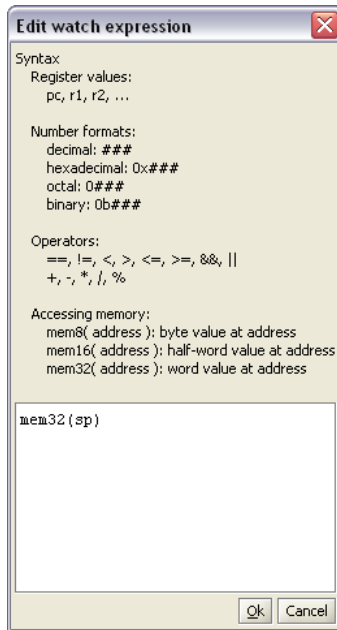

Figure 41. The **Edit Watch Expression** window.
3. The **Edit Watch Expression** window will appear, like in Figure 41. Enter the desired watch expression, such as `mem32(sp)`, which will display the full-word value at the current stack pointer address.